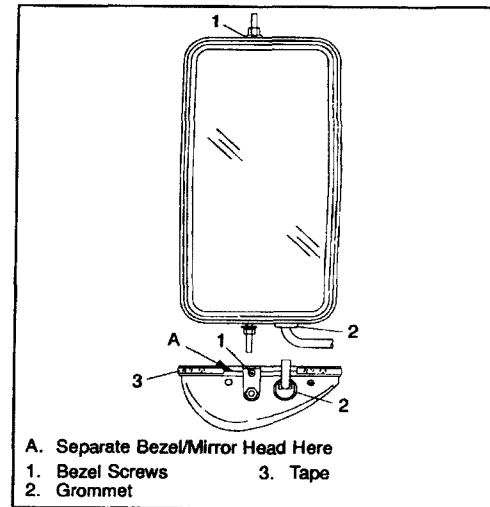

Fig. 9
3. Remove and discard any tape from the perimeter of the bezel. Remove the screws on the top and the bottom that hold the bezel to the mirror head. See Fig. 9.